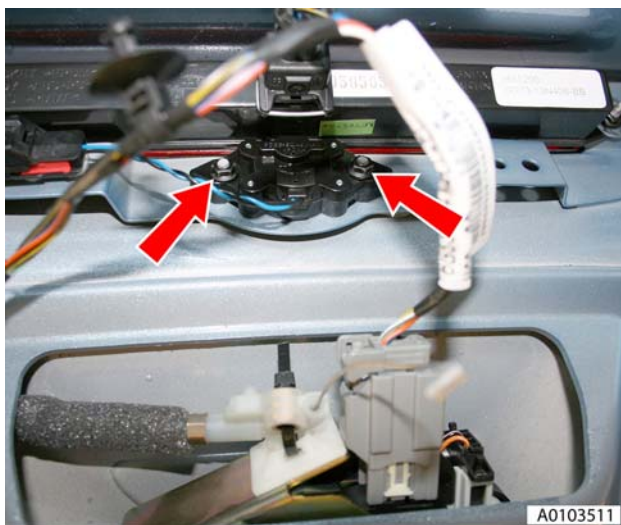

Figure 8
13. Remove nuts (x2) securing release switch to boot lid and remove switch (see Figure 8).